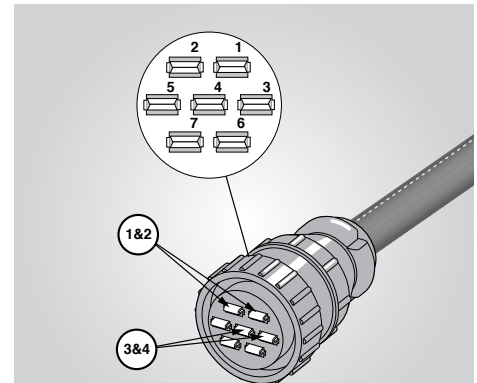

Fig. 2.1: 2.5 & 5.0 GPP
2.5 and 5.0 GPP:	1 & 2 / 3 & 4 (See Fig. 2.1)
- 2.5 and 5.0 GPP: Check each of the High Voltage terminal pairs on the output connector for aprx. 360 Volts RMS AC. Pairs: 1 & 2 and 3 & 4 (See Fig. 2.1). 7.5 GPP: Check each of the Voltage terminal pairs on both of the output connectors for approximately 115 Volts